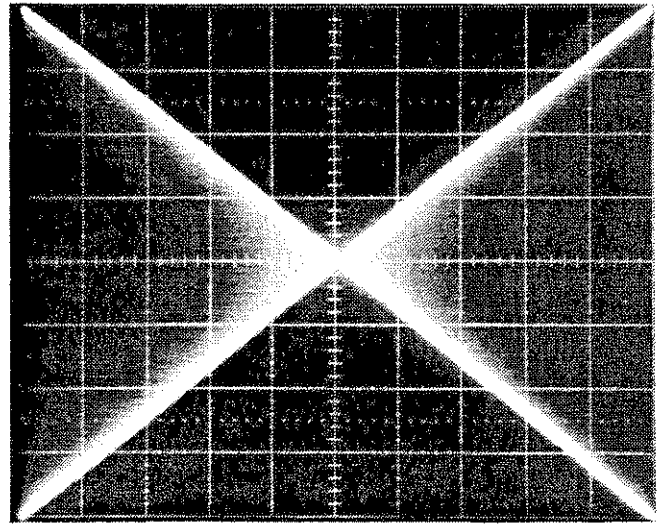

Fig. 3-1 MON CAL test pattern.
2. *Monitor Connections.* Connect BNC coaxial cables between the RTD 710A X, Y, and Z output connectors and their associated connectors on the CRT monitor. It is recommended that standard one (1) meter coaxial cables be used as longer cables may cause waveform degradation.
3. *Power Application and Test Pattern.* After turning on the RTD 710A Principal Power Switch on the rear panel and the ON/STANDBY switch on the front panel, turn on the monitor. When the RTD 710A enters normal operation, verify Hold is enabled (indicator on), then push the MON CAL key to display the pattern shown in Fig. 3-1. The MON CAL key indicator is on when the pattern is on.